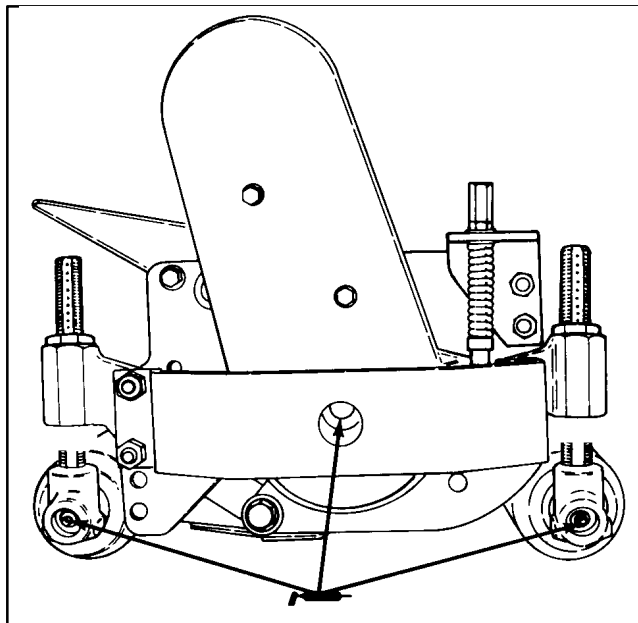

Figure 31
2. Lubricate reel shaft and roller bearings daily with 3 or 4 pumps of grease. Daily lubrication of these fittings purges water and other contaminants, increasing service life and maintaining excellent quality-of-cut (Fig 31).